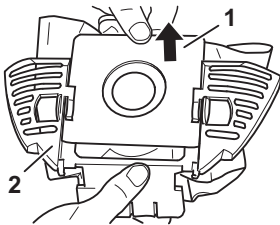

Fig. 18
5. Pull the dust filter bag (Fig. 18/1) up and out of the dust bag holder (Fig. 18/2).